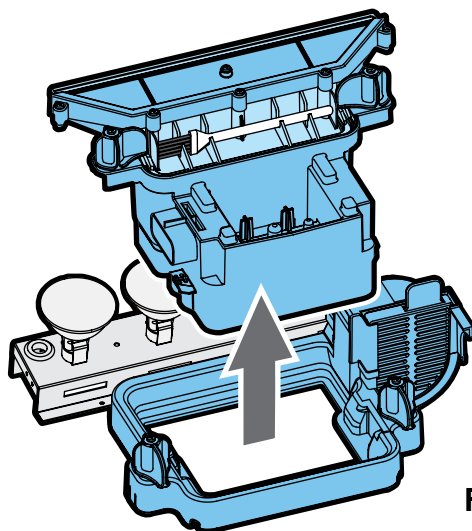

Fig.10
6. Gently lift up the sump assembly, taking care to keep level so as not to spill any water. Sit the assembly in the sink. (See Fig.10)